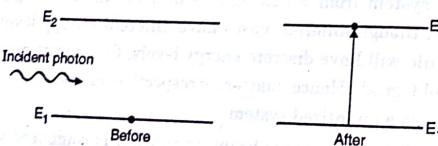

Fig. 4.2.1 : Induced absorption
- An atom in lower energy state  $E_1$  may absorb the incident photon and may be excited to  $E_2$  as shown in Fig. 4.2.1. This transition is known as stimulated absorption corresponding to each transition made by an atom one photon disappears from the incident beam.